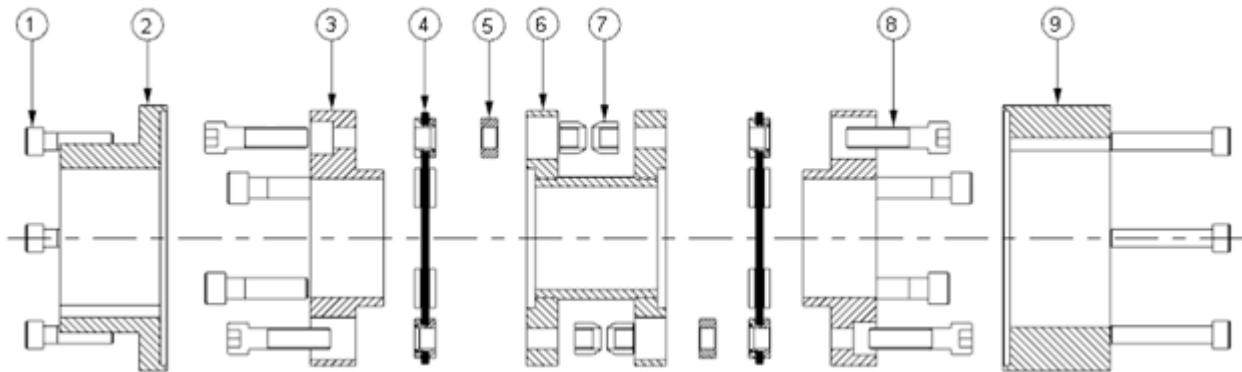

Fig. 7.
- Remove Transmission unit by loosening attachment bolts (1) from hub.
- Compress sub assembly by using gagging screw (10) (fig. 7) to disengage from hub step.
- Remove clevloc nuts (7), bushing and blade pack (4) from adapter